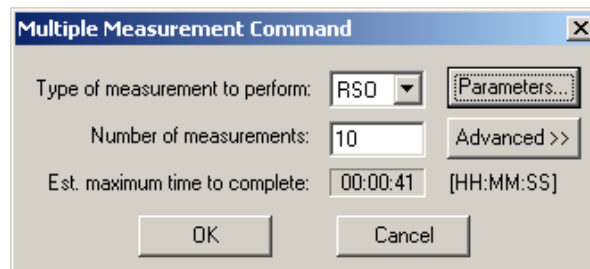
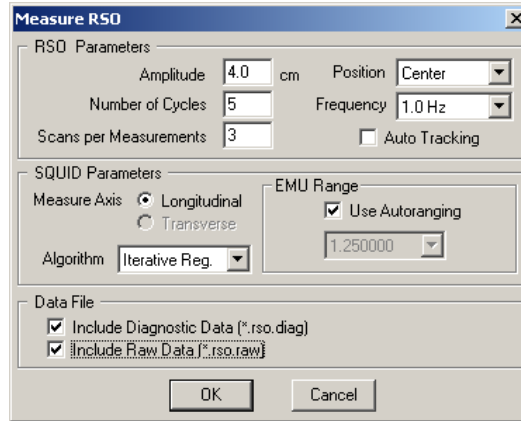

Figure 3-11. Multiple Measurement dialog box set up to perform RSD measurements.
Figure 3-12. Measure RSO dialog box for setting measurement parameters
3. When the list of commands appears, double click on the **Multiple Measure** command. The **Multiple Measurement Command** dialog box will open (see Figure 3-11).
In Figure 3-11, the dialog box is set to perform 10 RSO measurements. Additional specifications can be made by using the **Parameters** and **Advanced** buttons on the right side of the dialog box.
For example, because the **Multiple Measurement Command** dialog box in Figure 3-11 is set up for RSO measurements, clicking on the **Parameters** button produces the **Measure RSO** dialog box, as shown in Figure 3-12. In this example, a typical RSO measurement will consist of a 4 cm center scan at 1 Hz with 5 cycles per scan and 3 scans per measurement. For every measurement, the usual information will be recorded in the `.dat`, `.raw`, and `.diag` files.
The **Advanced** button acts differently. If you click on the **Advanced** button, the **Multiple Measurement Command** dialog box (Figure 3-11) expands to show a **Measurement Rejection Criteria** panel (see Figure 3-13). In this panel you can specify the criteria that will be used to reject individual measurements from the data that is collected. You can set two rejection criteria: